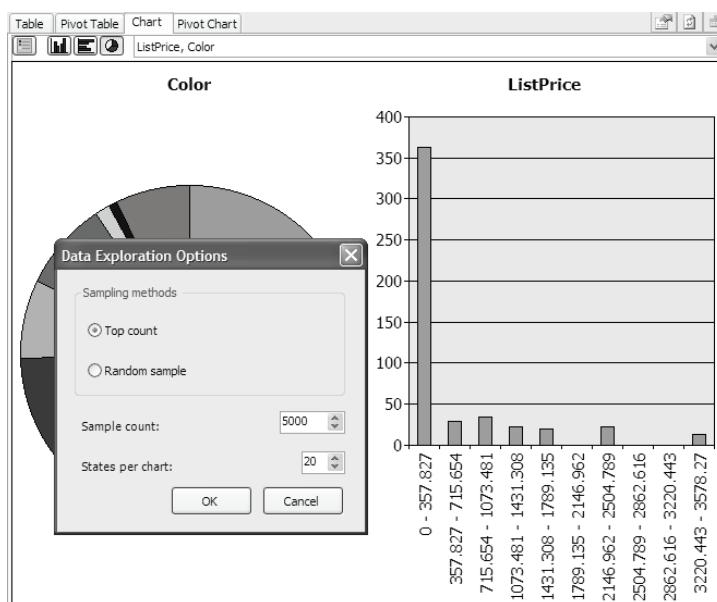

Figure 2.17 Use the DSV Data Explorer to analyze the raw data in tabular and chart views.
1. Right-click on the Product dimension table in the DSV diagram and choose *Explore Data* (see Figure 2.17).
The Data Explorer allows you to see data in table, pivot table, chart, and pivot chart views. The Table mode displays data in a tabular read-only format. The pivot options use the PivotTable and ChartSpace controls from Office Web Components suite that I introduced in chapter 1. The chart mode allows you to create chart views of several columns and compare them side-by-side (see Figure 2.17). For example, I've selected the *Color* and *ListPrice* columns of the Product table. The various supported charts allow me to find quickly that the price of most products is around \$350.